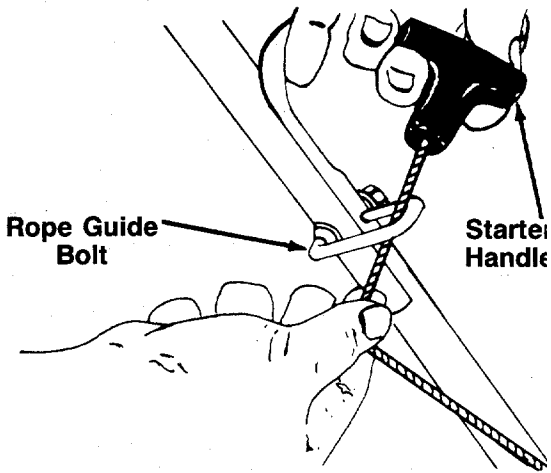

FIGURE 10.
- 3. Slip the starter rope into the rope guide bolt as shown in figure 10.